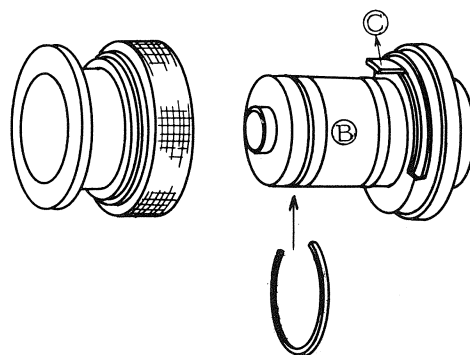

Fig. 25
(Note) If the ring does not turn smoothly and catches or is tight, apply liquid molybdenum to the (B) section indicated in the following diagram and then check the revolving condition again. If the rotation is still rough, move lever (C) and check the movement of the aperture leaf. If the cause is the aperture leaf, replace the aperture leaf or clean it. (Fig. 25)